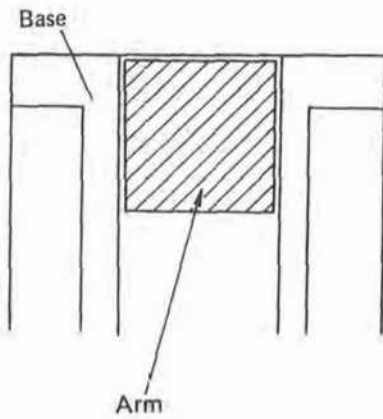

Fig. 6-1
1. The Arm should be mounted precisely so as not to degrade appearance. (See Fig. 6-1.)